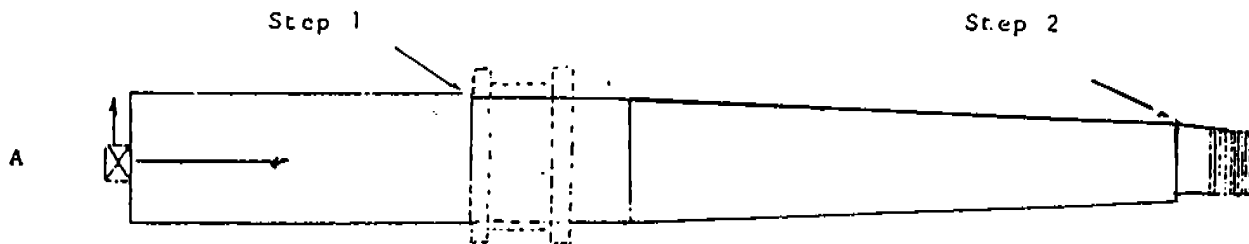

Figure 1
Notes for Figure 1:
- A. After calibration per Figure 1, areas (A) and (B) shall be scanned 100%.